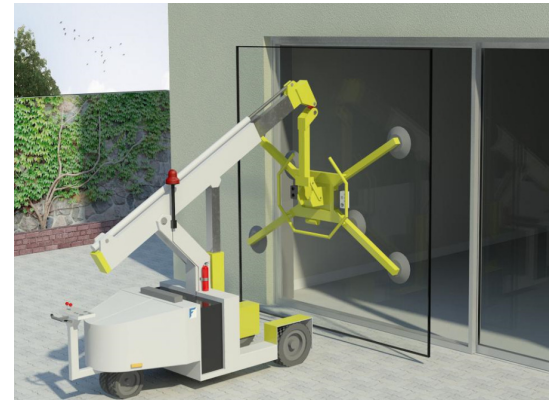

Figure 11:
1. If glazing after panel installation (Figure 11), see Section IX Panel Installation.